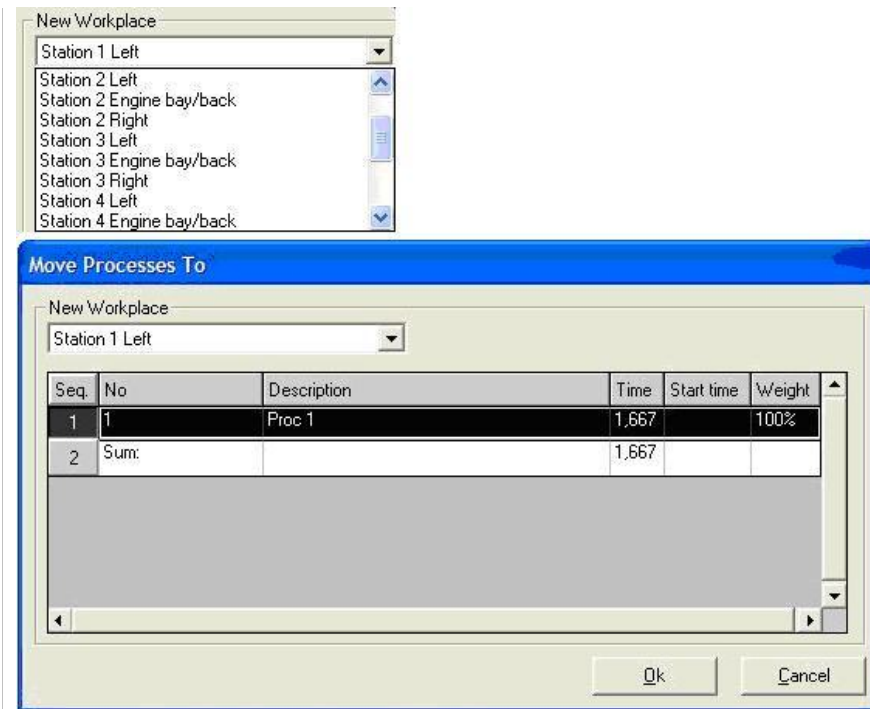

Figure 25: Move Processes to Dialog – Stations Selection List
- 2) To open the dialog, open the popup menu and click **Move Selected Processes To....** Please refer to the Figure 25.